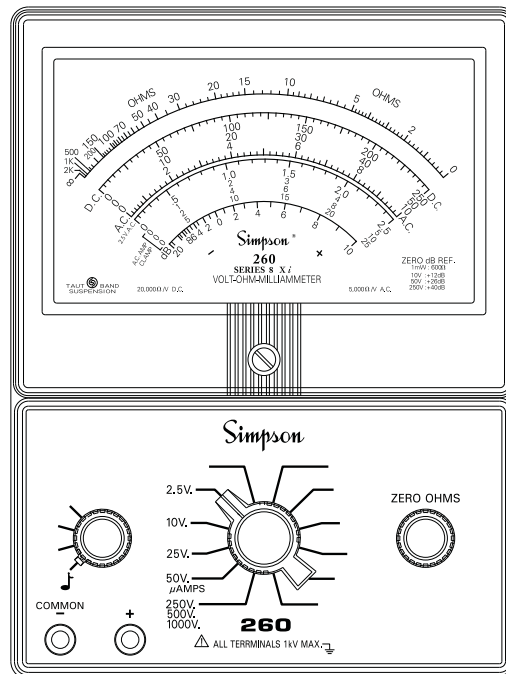

Figure 4-13. Jacks and Switch Positions for Continuity Tests
- a. Set the FUNCTION switch to the “ $\Omega$ .” Insert the black test lead into the COMMON (-) and the red test lead into the (+) jacks, (Figure 4-13).